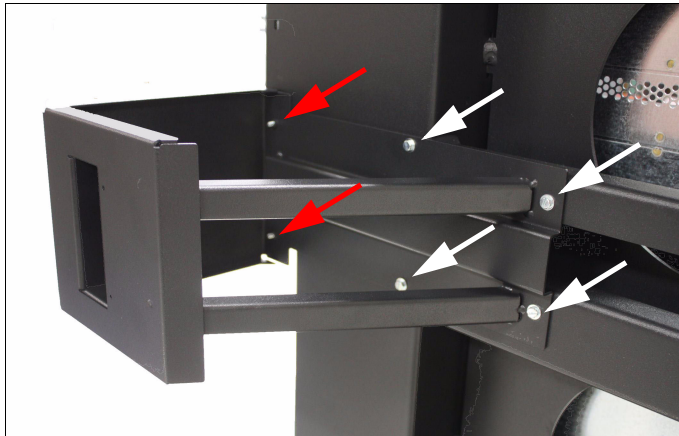

Figure 1-10 Part number 46K5764 with screw locations
4. Align the black frame support (part number 46K5764) with the six screw holes on the upper half of the front edge of the frame. See Figure 1-10 for the screw hole locations.
Attention: Install the two screws at the left side of Figure 1-10 from the inside, front of the frame.